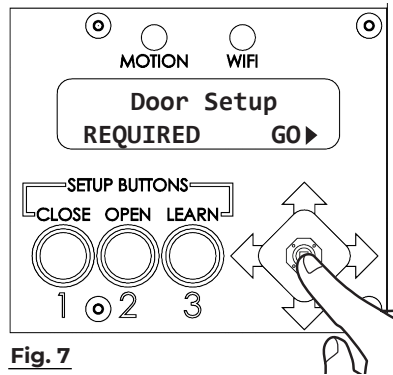

Fig. 7
1. Select GO from the Door Setup REQUIRED menu by pushing joystick to the right. (Fig. 7)